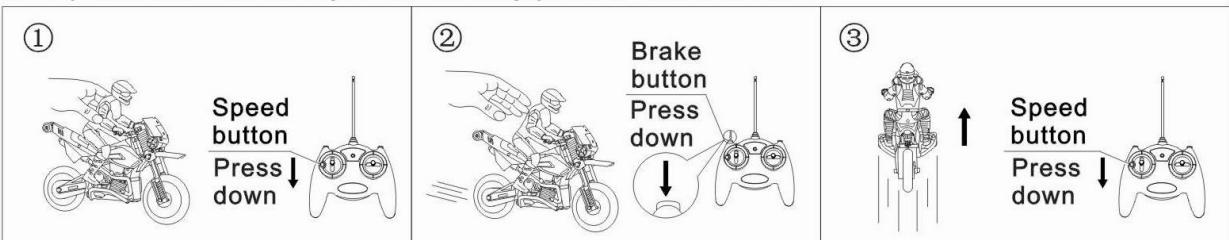

Fig10
2. Lengthening the remote antenna (remote control farther), the body is up, turn on the body power switch (switch to "ON" state), to prepare control. (Figure 10)